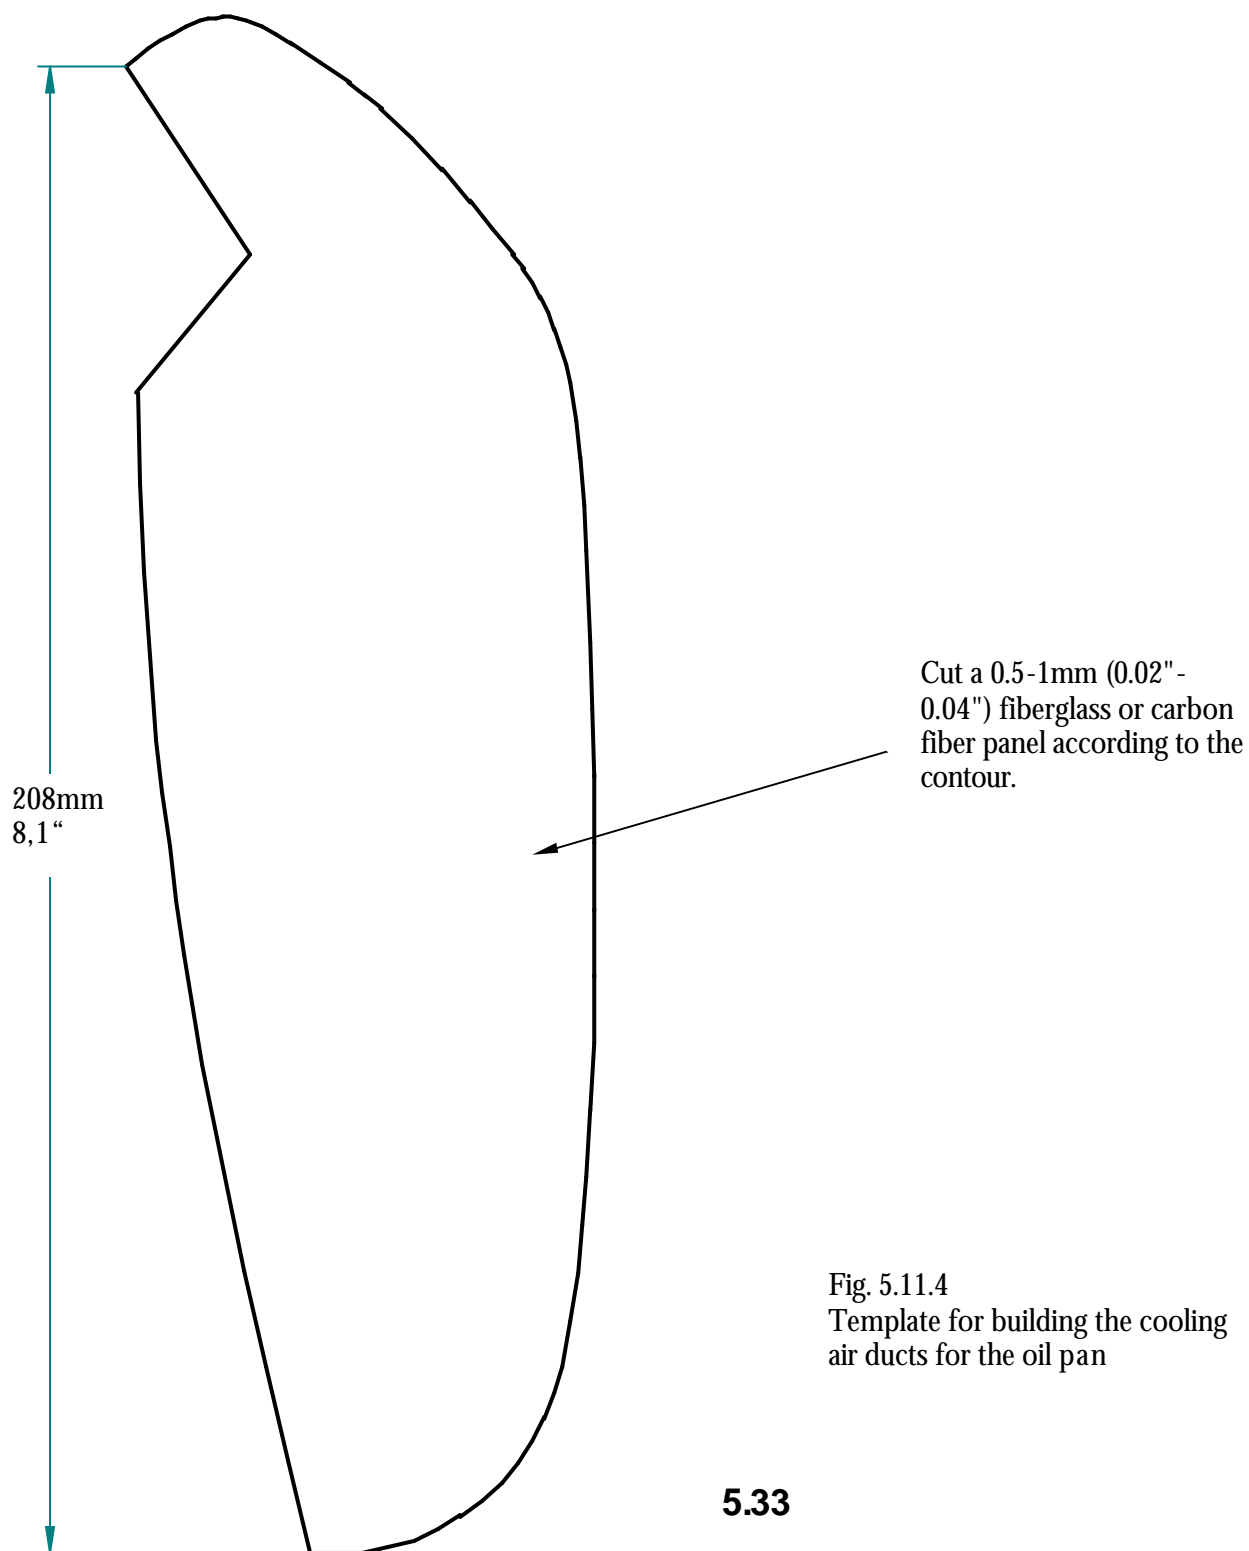

Fig. 5.11.4
4. Build two air ducts from fiberglass or carbon fiber panels as shown in figure 5.11.4.